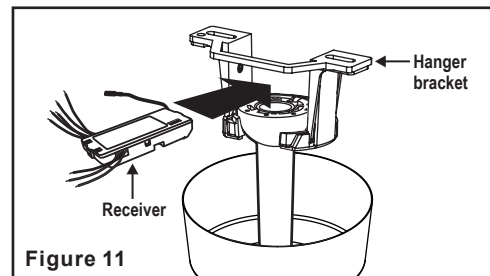

Figure 11
Step 1. Insert the receiver into the mounting bracket with the flat side of the receiver facing the ceiling. (Fig. 11)